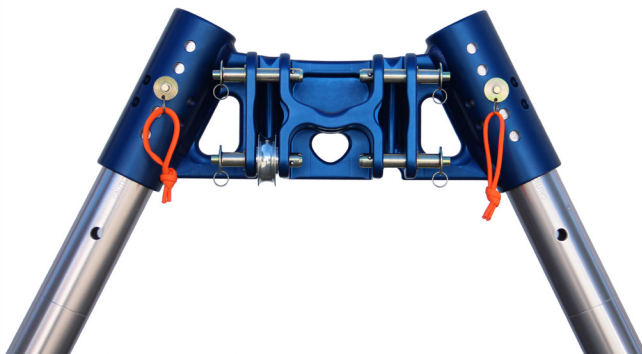

FIGURE 1A
- Make sure the connection pin that inserts through the head feeds through an inner leg hole when the leg is at full extension, rather than feed through the head "above" the top of the leg. When assembled correctly, the top of the leg should be flush with, or extended above the top leg sleeve of the head, **Figures 1A and 1B.**